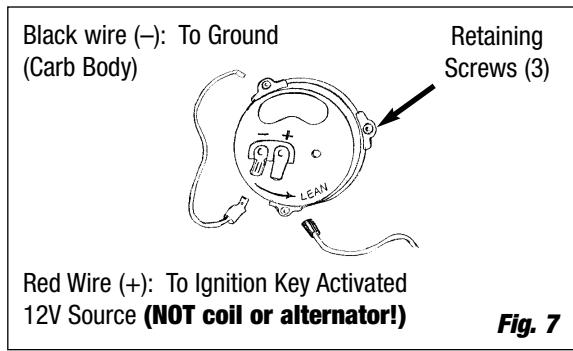
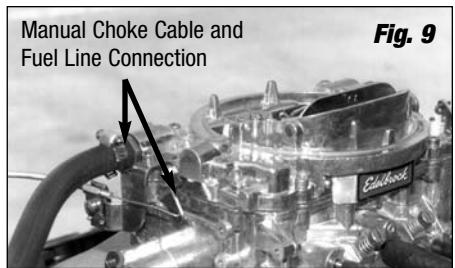

Fig. 7
Fig. 9
- On electric choke models (**See Fig. 7**), remove one choke housing retaining screw and install eyelet end of choke ground wire (black) to the choke housing, and reinstall the screw. Connect clip end of choke ground wire to negative (-) spade terminal on choke housing.
- Manual choke: Connect manual choke cable to the choke lever cable mounting bracket (**See Fig. 9**). Electric choke: Connect the red choke wire to a 12 volt positive (+) source that is activated by the ignition switch (**Not the coil or alternator; see Fig. 7**).